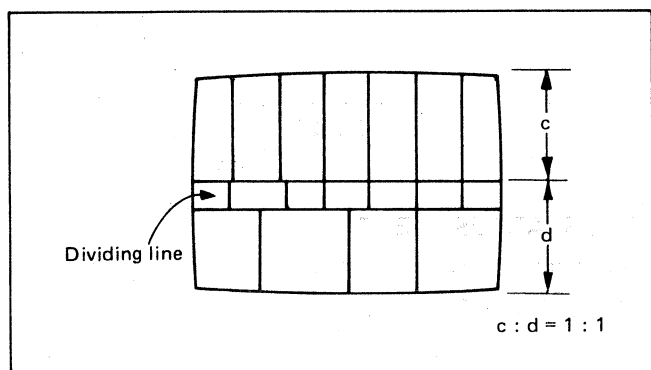

Fig. 24
8. Adjust R5991 (A/B split position) so that the dividing line on the screen becomes a half and half as shown in Fig. 24.